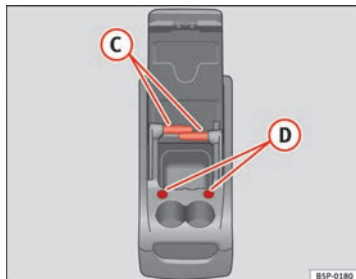

Fig. 113 Mobile storage compartment. Functions
To use the table (C) ⇒ Fig. 113, it must be removed from its compartment in the side of the mobile storage compartment and fitted into slot (D) ⇒ Fig. 113 on the front section of the mobile storage compartment.